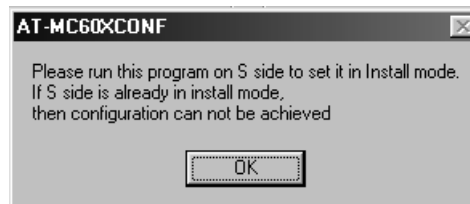

Figure 34 Run on S Side Error Message
- ❑ **“Please run this program on S side to set it in Install mode. If S side is already in install mode then configuration can not be achieved,”** as shown in Figure 34.